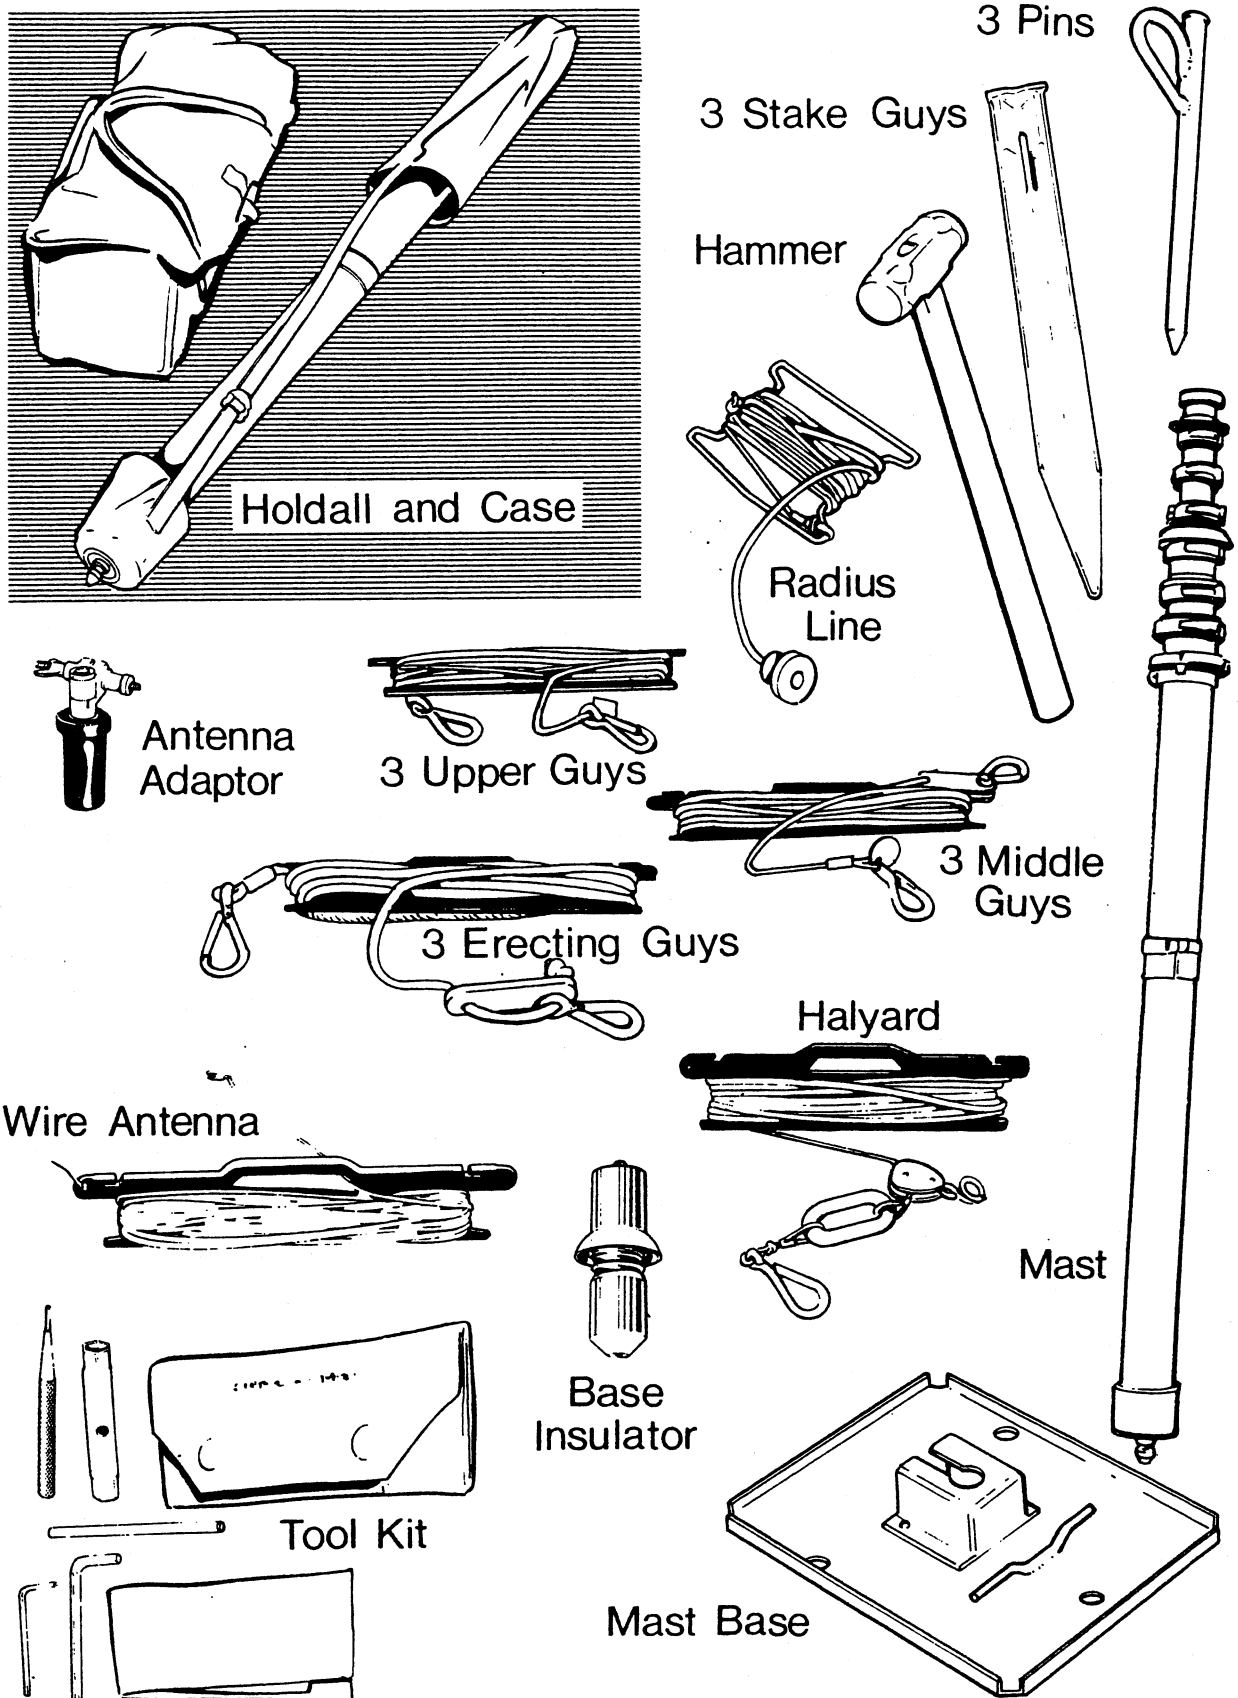

Fig 99.—8m Mast — Components
(1) Height retracted	1.4m
(2) Height extended	8.0m
(3) Weight of complete equipment	30.5kg
b. *Components (Fig 99)*